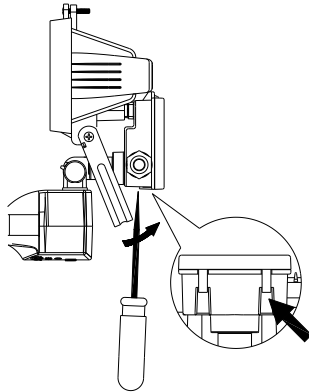

FIGURE 10a
- (3) Use a flat blade screwdriver to hinge the wiring box cover from one of the grooves beneath the wiring box and apply the same step to hinge the other groove. Keep the wiring box cover open for further wiring operations. (FIGURE 10a & 10b)